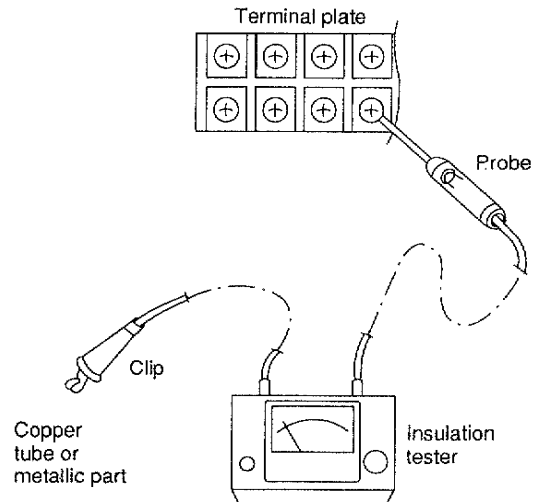

Fig. 2
Clamp an aluminum plate fin or copper tube with the lead clip of the insulation resistance tester and measure the resistance by placing a probe on ①, and then ② on the terminal plate. (Fig. 2)
Clamp a metallic part of the unit with the lead clip of the insulation resistance tester and measure the resistance by placing a probe on ⑤, and then ⑥ on the terminal plate. (Fig. 2)